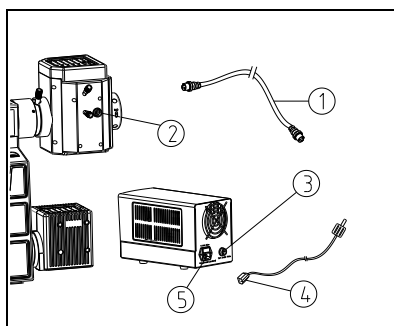

Fig.36
(1) Make sure the main switch of microscope and mercury lamp power supply are at “O” (OFF) position.
(2) Connect one end of the plug ① to the socket ②, insert it to the end, then lock the screw. (See Fig. 36)
(3) Use same way to connect other end of the plug ① to connector ③ of power supply.
(4) Connect one side of the plug ④ to socket ⑤ on mercury lamp power supply and other side to power supply socket.